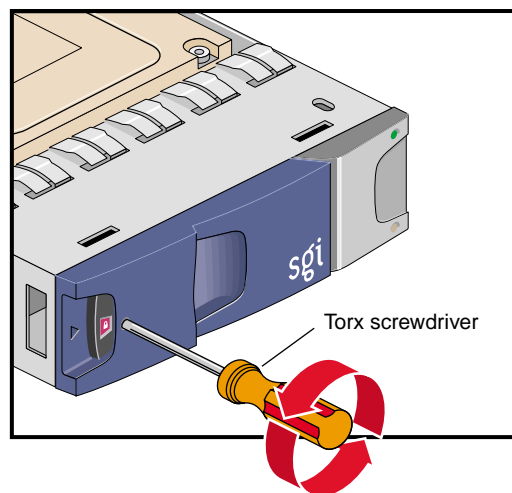

Figure 12-20 Unlocking the Disk Drive Module
3. If the drive module is locked, insert the Torx screwdriver into the anti-tamper lock and turn it 90 degrees counterclockwise. The indicator in the drive carrier module turns black when the drive is unlocked. See Figure 12-20.